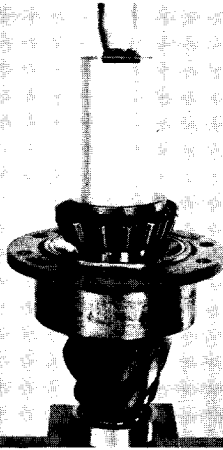

FIG. 97
- Position pinion bearing cage assembly on pinion shaft. Position outer pinion bearing cone on pinion shaft and press into place using steel tubing for driver (Fig. 97). Driver dimensions are shown in Fig. 92.